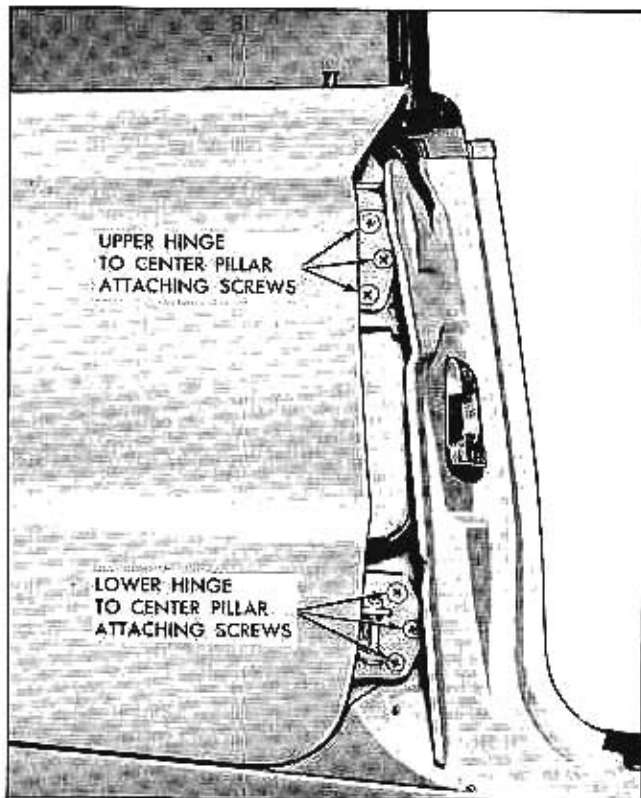

Fig. 2-30 Rear Door to Center Pillar Attachment
4. With door properly supported, remove three upper and three lower hinge attaching screws at door hinge pillar or center pillar depending on method of removal (Fig. 2-30 and 2-31).
1. For in and out or up and down adjustment, loosen hinge to door pillar attaching screws (Fig. 2-30). Adjust door as required and tighten screws.
2. To adjust door fore or aft, loosen hinge to center pillar attaching screws (Fig. 2-30). Adjust door fore or aft as required and tighten screws and bolts.